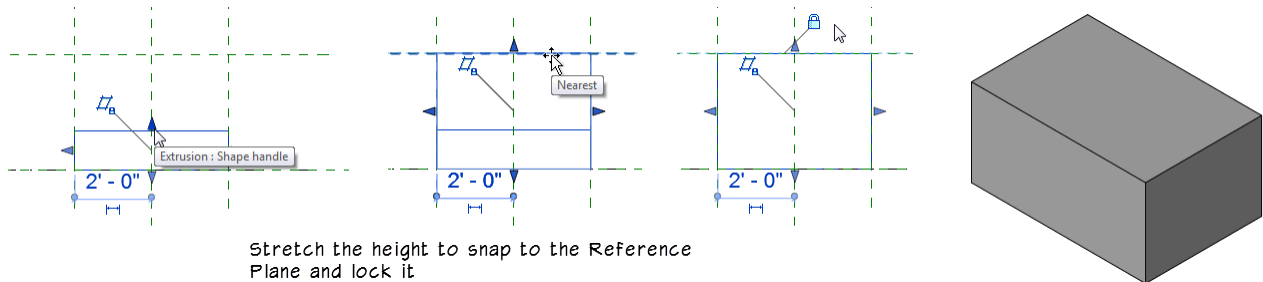

Figure 11
7. In the *Front* view, select the box. Drag the triangle shape handle grip at the top and snap it to the reference plane. Lock it (see Figure 11).